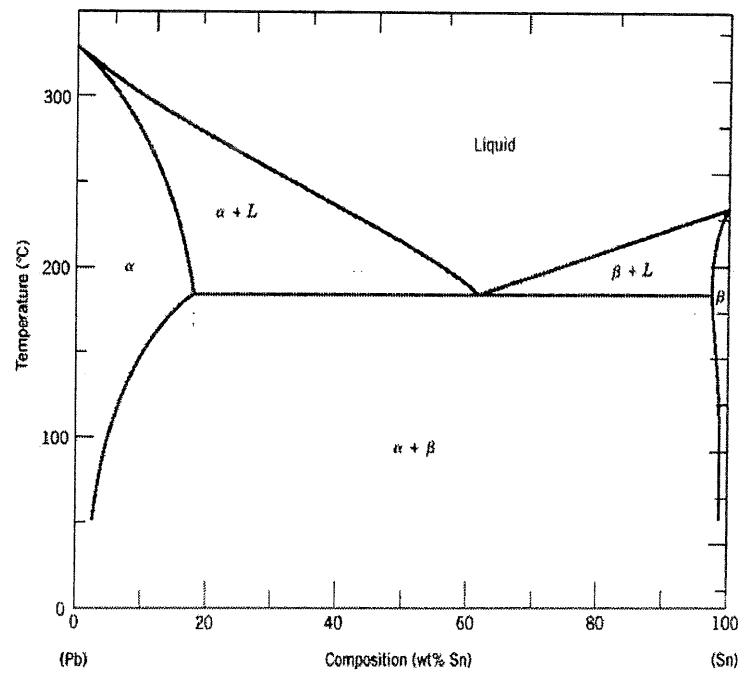

Figure 2
b) Based on Figure 2 show Pb - Sn system, find: